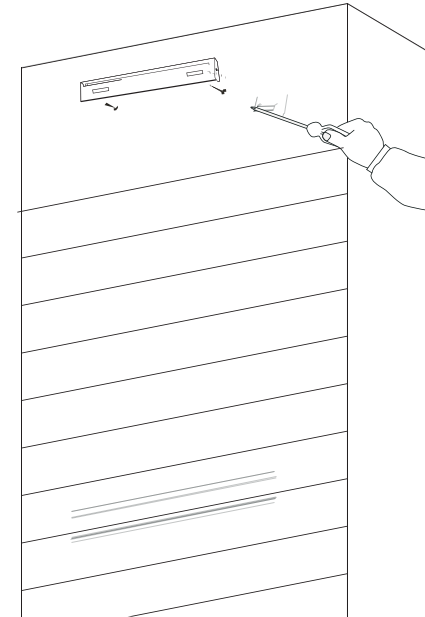

Fig.7
- Install the flue cover mounting bracket with screws to the wall as marked (Fig.7). Please mounted recirculating T pieces together with flue cover bracket if recirculating mode is used. (Fig.12)